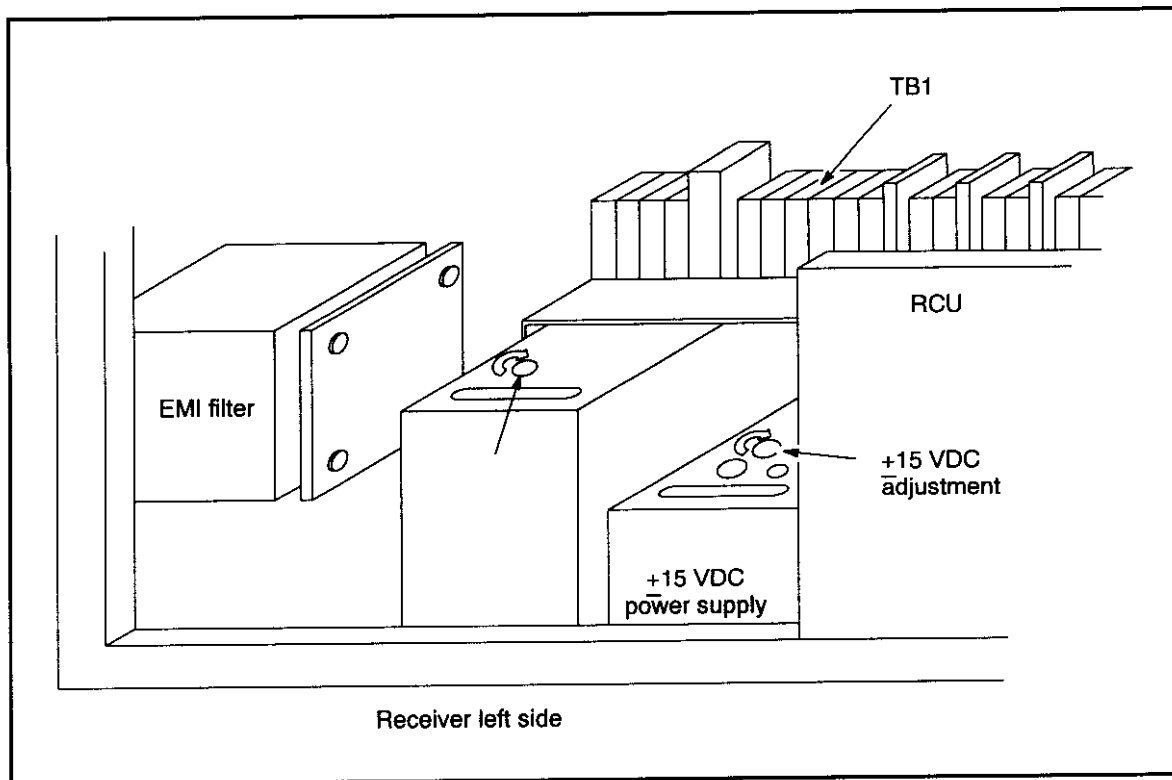

Figure 40. Receiver Power Supplies.
- b. If necessary to adjust the output level, use Figure 40 to locate the voltage adjustment points.